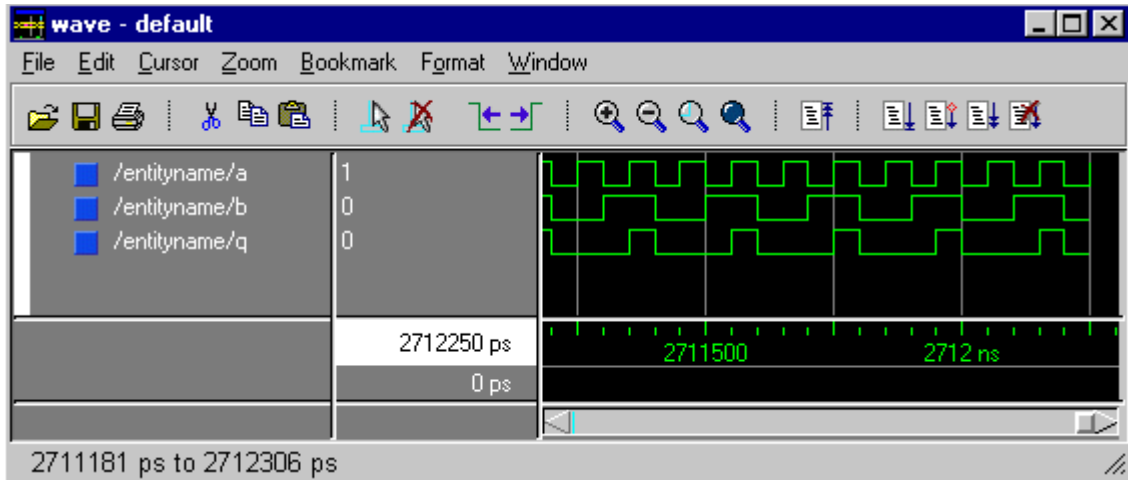

Figure 11 Wave
16. Press the **Break**  button after few seconds to stop running. Watch wave window for the expected results, see **Figure 11**.